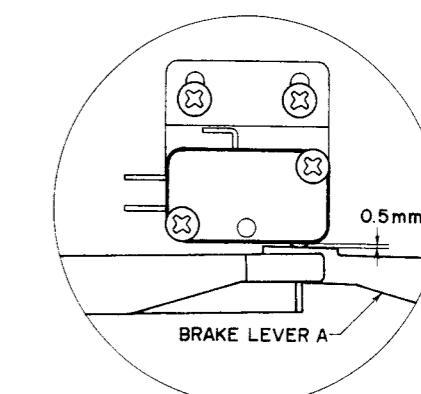

Fig. 7
- As shown in Fig. 7, when the plunger is pulled, tighten Brake Solenoid Screws C and D at position at which the gap between Brake Lever A and the body of Brake Micro Switch is 0.5 mm at the narrowest place.